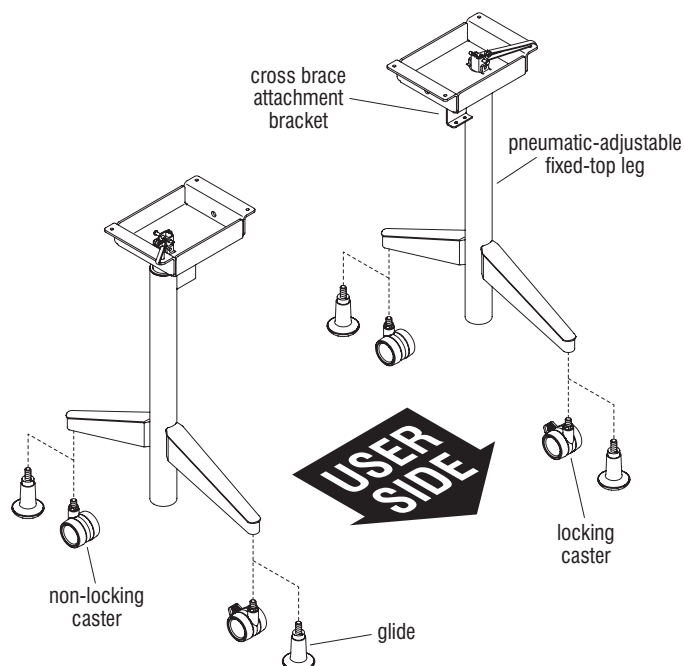

Figure 1 - (Leg Kit Item #HPF24)
2. Carefully stand the two pneumatic-adjustable fixed-top legs to the upright position with cross-brace attachment brackets facing each other as illustrated. Orient the legs so the cross-brace attachment brackets on each leg post are inline to each other (Figure 1 & Detail A).
4. Choose which side of the legs will be designated as the eventual user side of the table. Locate the locking and non-locking casters. Locking casters are to be installed to the front, user side of each leg, and non-locking casters are to be installed to the rear of each leg. Use a  $\frac{3}{4}$ " open end wrench to tighten casters to the foot of each leg (Figure 1).
6. Thread the stems of two glides into the threaded inserts at the underside of each foot by hand. Twist the glides in clockwise, fully to the bottom of the feet (Figure 1).